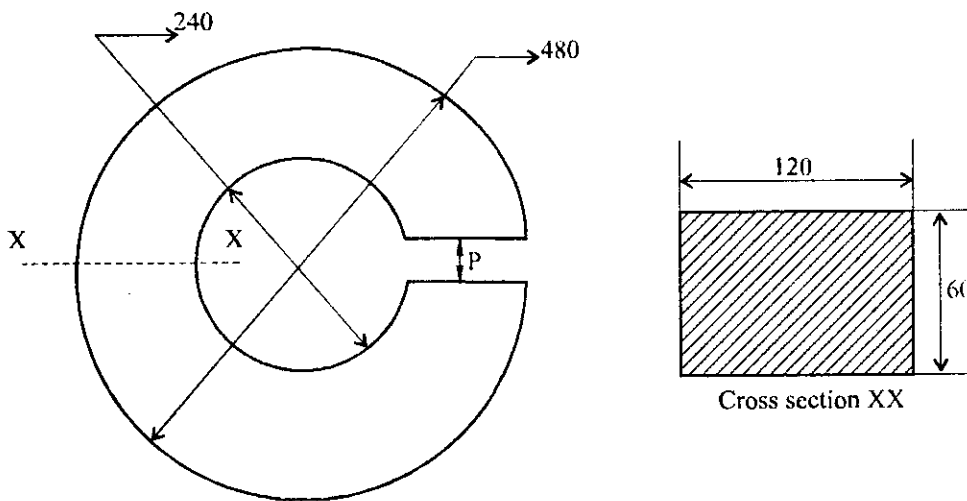

Fig.1
1. Determine a safe value for load P for a machine element loaded as shown in figure 1, limiting the maximum normal stress induced on the cross section XX to 120 MPa.